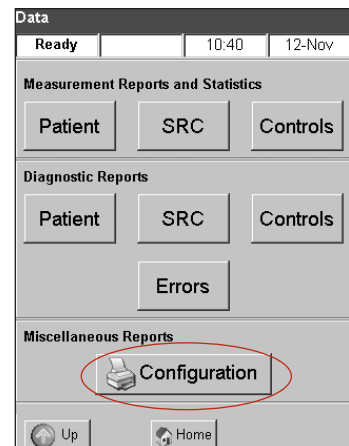

Figure J-9: Data screen > Configuration button
2. In the Configuration Report section, tap **Configuration** (Figure J-9) to print the report. The printout lists all settings defined for the analyzer, including quality control ranges, reference limits, correlation factors, patient information, printout settings, etc.